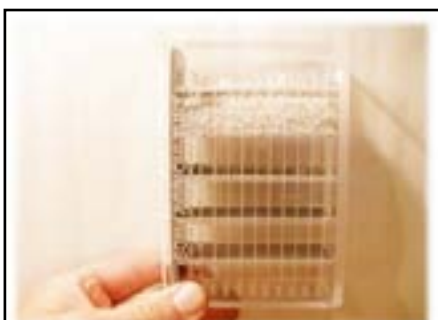

Figure 5
4. Figure 5 - Rotate scale vertical and shake to separate material, usually less than two minutes.